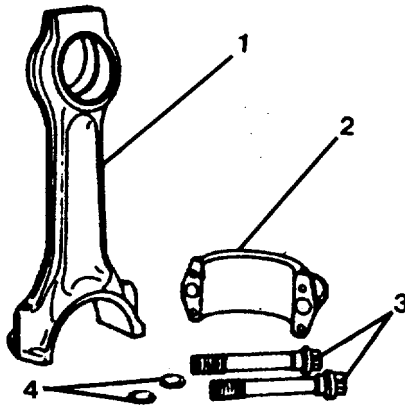

FIGURE 4-66. Connecting Rod Disassembly.
- (1) Remove capscrews (3, FIG. 4-66), washers (4) and cap (2) from connecting rod (1).
- (2) Use solvent to clean the parts.
- (3) Inspect rod and cap for fretting damage. The rod and cap must be replaced as an assembly if fretting damage is visible on either piece.
- (4) Check the threads of the connecting rod capscrews for damage. Check the capscrew head for cracks.
- (7) Lubricate the connecting rod capscrews (3, FIG. 4-66) with clean engine lube oil.
- (8) Assemble the rod (1), cap (2), washers (4) and capscrews (3). Tighten capscrews in the following sequence: